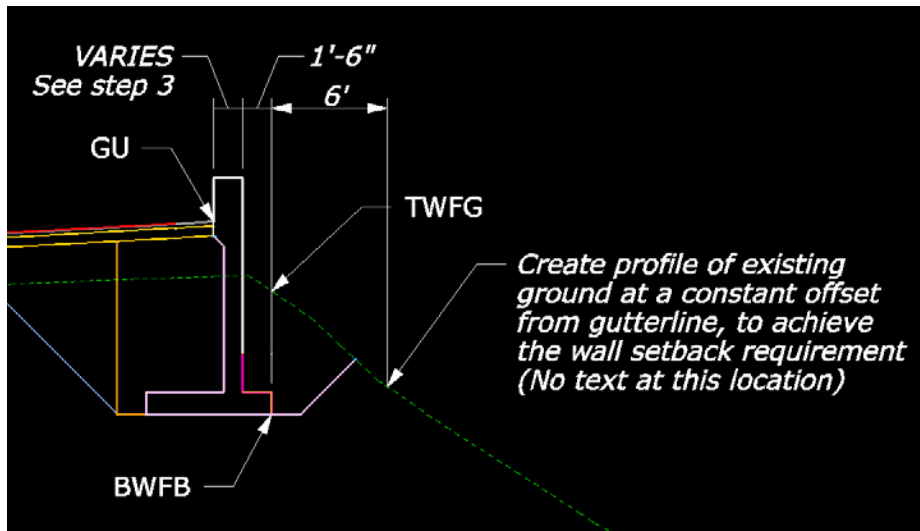

Figure 1-7: Search Text Locations
catch point to catch point, and it must pass through the text points GU and BWFB (See Figure 1-7 for text locations). The following levels must be specified for a parapet retaining wall: X_P_Conc_Wall_Above; X_P_Conc_Wall_Below and X_P_Conc_Wall_Str_Exc. The existing ground level (X_E_Ground_XS) must also be included, to locate the TWFG text. Close the dialog box.
ground at the wall footing (TWFG). Click on the Apply button to generate the chains and profiles based on the locations of the GU, BWFB and TWFG text (See Figure 1-7).
10. Create a profile of the existing ground at a constant offset from the gutterline chain (C1GU), (See Figure 1-7 for location). Re-define the Proposed Finish Grade as existing ground (X_E_Ground_XS). Select Offset for the Report Options as shown below. Enter the offset distance (Min setback + Wall Toe Width + Parapet Thickness) and the profile name. Select C1GU as the Chain and click on the Add button. Click on the Apply button to generate the profile.